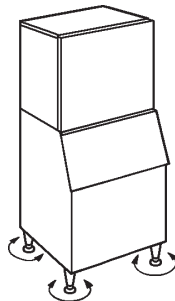

Fig. 6 Adjust legs
- 8) Adjust the four legs on the bottom (adjustable from 0 to 25.4 mm) to have the icemaker perfectly horizontal. Use the spirit level. See Fig. 6.